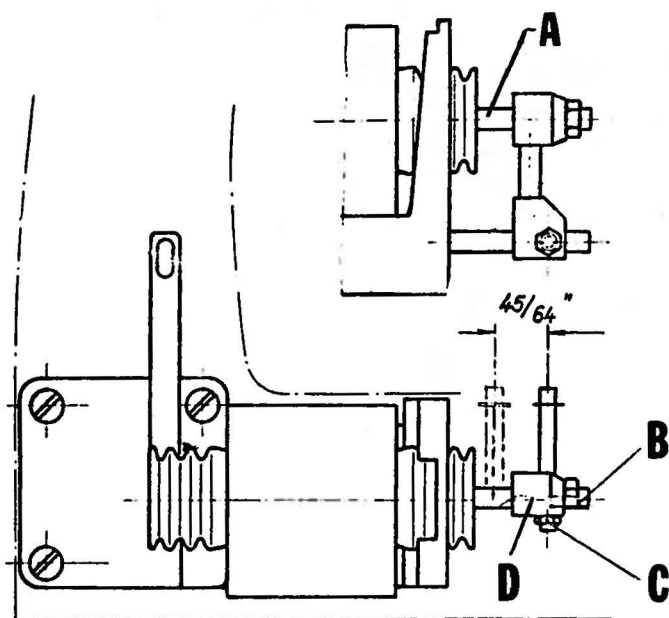
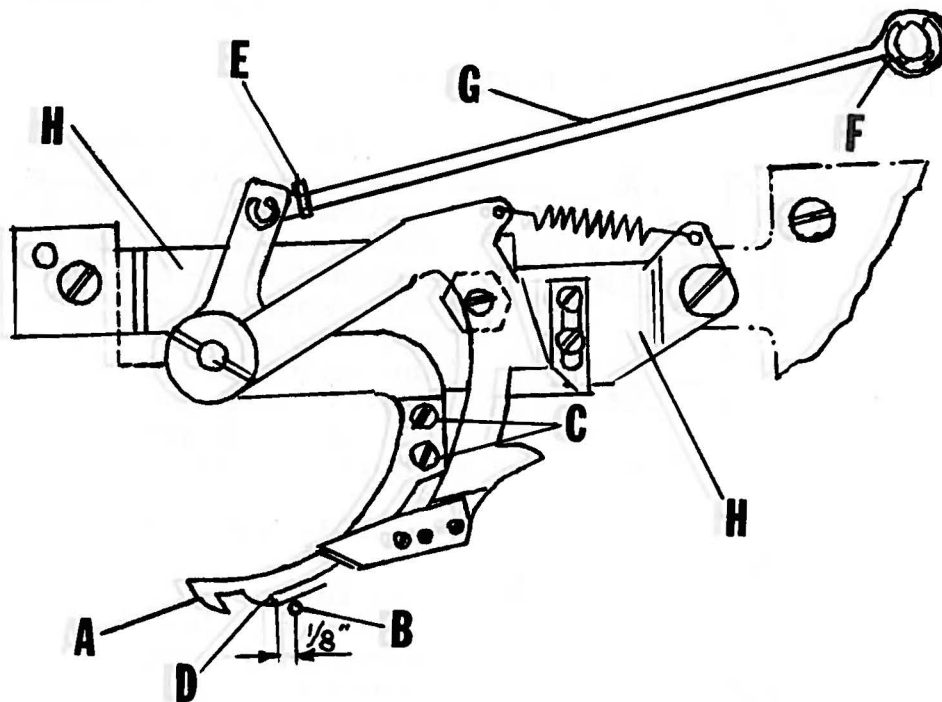
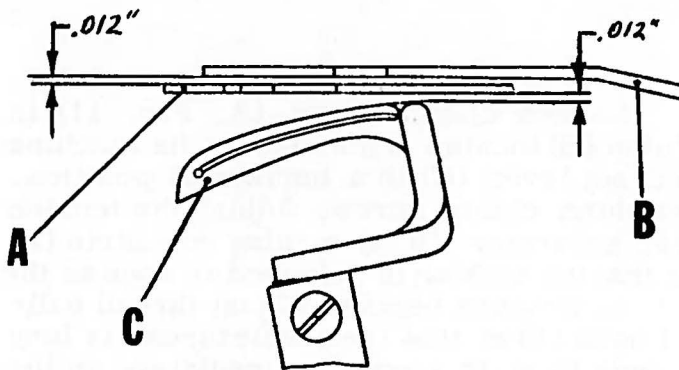

Fig. 4
Fig. 6
Fig. 7
The length of stroke of the armature shaft (A, Fig. 4) should be approximately $45/64$ inch (See Fig. 4). Since the armature of the solenoid is designed to operate in one direction only, when actuated, its only means of returning to its rest position is by the spring loaded shaft (B). Loosen nut (C), move head (D) to the right or left on shaft (B) to obtain desired dimension, retighten nut (C).
With the needle in down-position, slowly depress the cutting solenoid armature shaft (A, Fig. 4) observing that the lower knife (A, Fig. 6) must pass to the rear of the needle (B) as close as possible without contacting. Should adjustment be required, loosen screws (C), reposition knife and retighten screws. With the lower
knife at its extreme left position, the cutting edge (D) for the needle thread must be $\frac{1}{8}$ inch to the left of the center of the needle (See Fig. 6). Should adjustment be required, loosen locknut (E) remove snap ring (F) and rotate connecting rod (G) as necessary to obtain required dimensions. Replace snap ring and retighten locknut.
With the needle in up-position and the lower knife swung-in, there should be approximately .012 inch clearance between the lower knife (A, Fig. 7), looper retainer (B) and looper (C). If adjustment is necessary, CAREFULLY BEND the knife carrier bracket at points (H, Fig. 6) to suit.